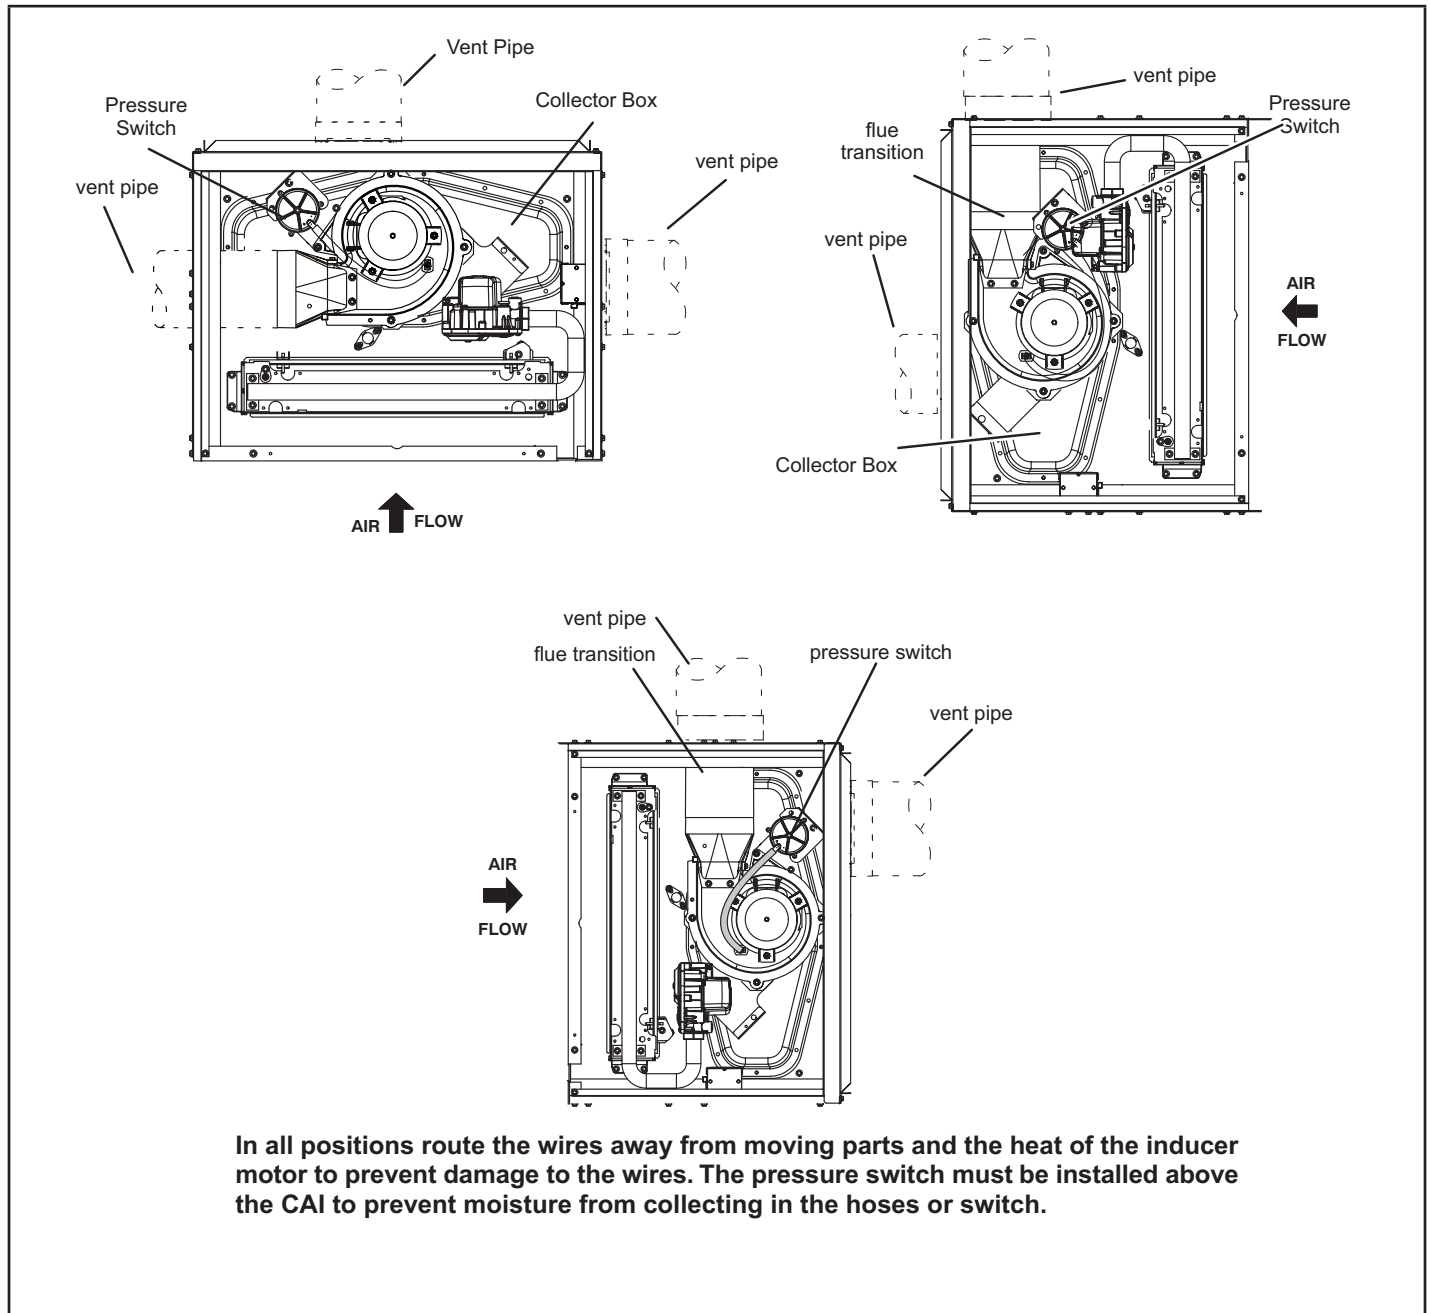

FIGURE 11
The ML180UHE(X) furnace can vent in multiple positions. See figure 11. The make up box may be removed and the combustion air inducer may be rotated clockwise or counterclockwise 90° to allow for vertical or horizontal vent discharge in a vertical or horizontal cabinet position.